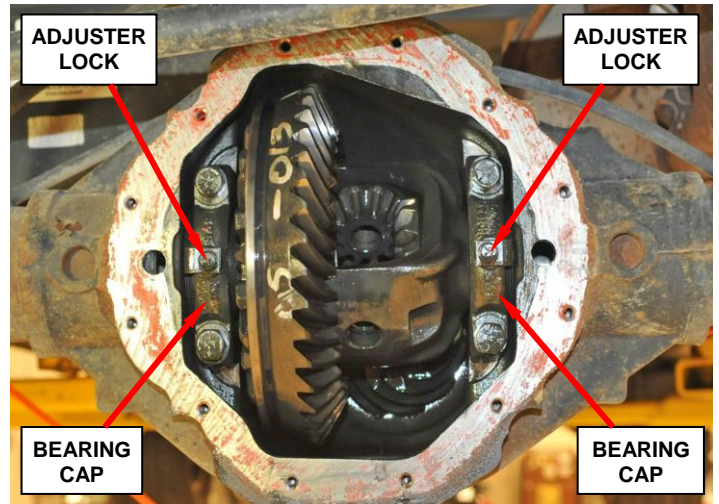

Figure 8 – Adjuster Locks and Bearing Caps
8. Remove the bearing threaded adjuster lock from each bearing cap (Figure 8).
9. Loosen the differential bearing cap bolts (Figure 8).